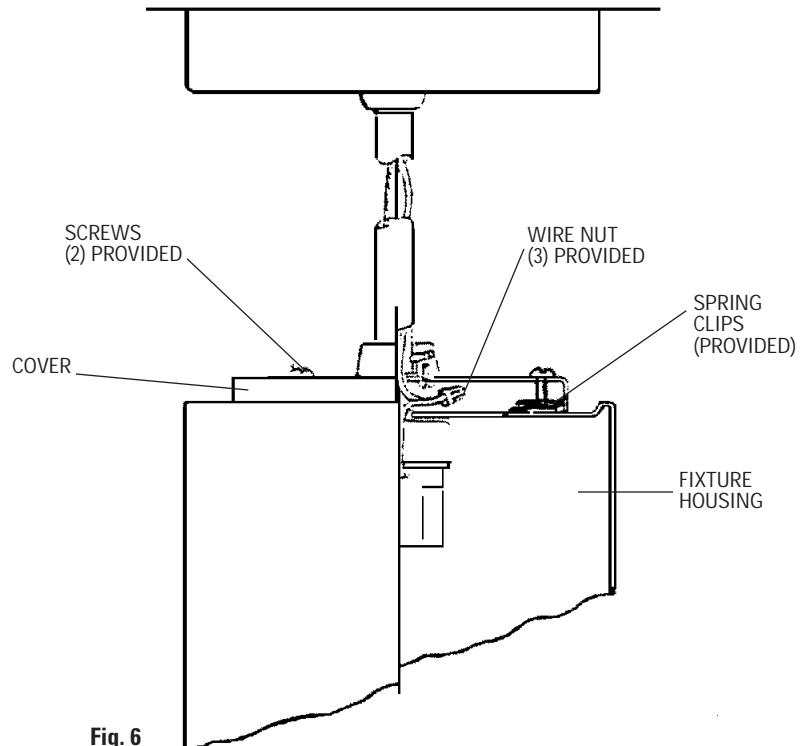

Fig. 6
3. Align (2) holes in COVER with (2) SPRING CLIPS secured on top of FIXTURE HOUSING. (Fig. 6) Assemble FIXTURE HOUSING to STEM KIT using (2) SCREWS (provided).